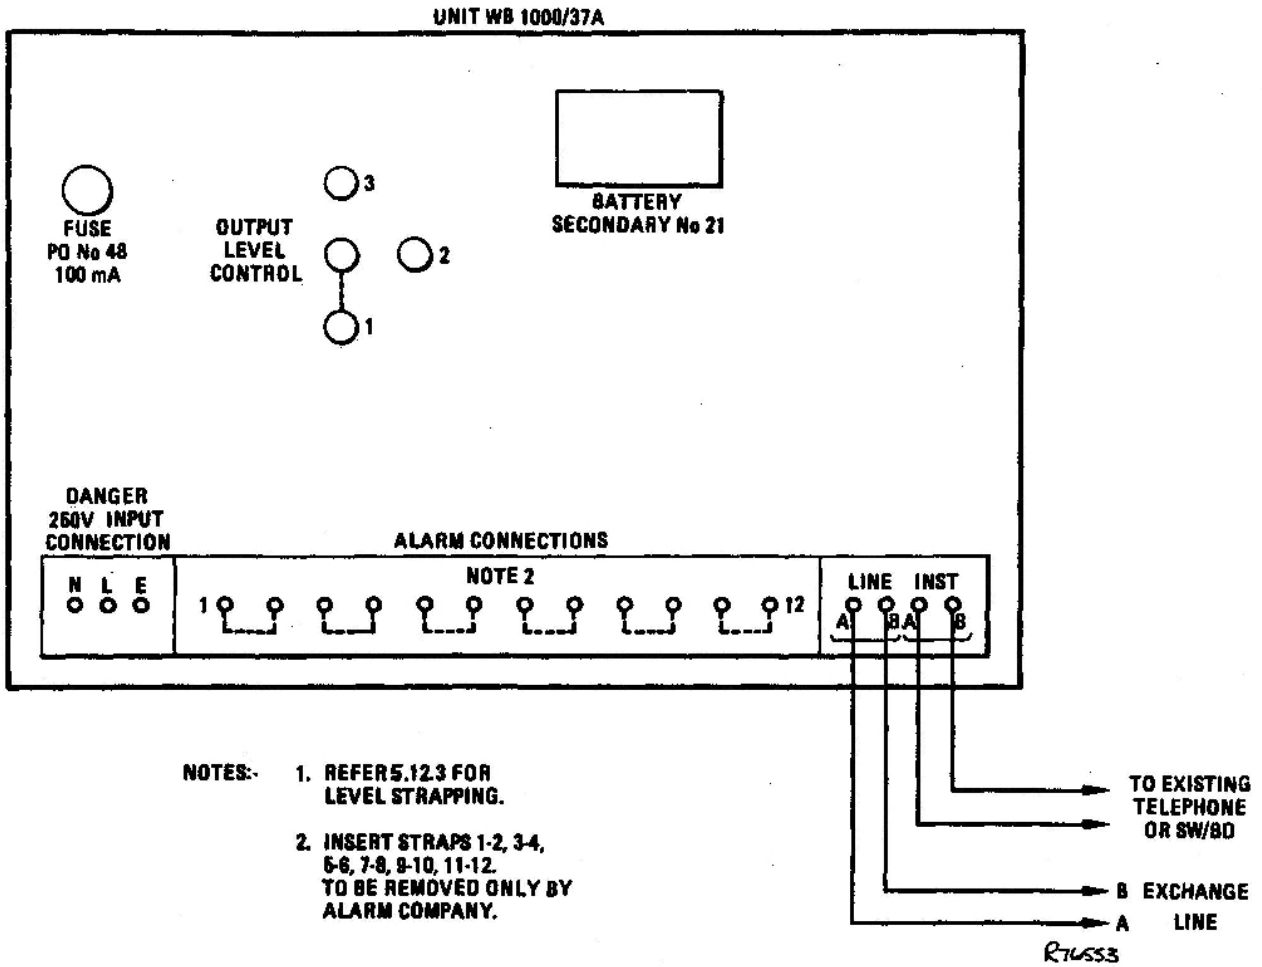

FIG 3 CARRIER UNIT FOR CUSTOMERS MULTI-ALARM SYSTEM
5.11 Cabling and Wiring (Unit 37A) For wiring details see Fig 3.
Fig 3 follows